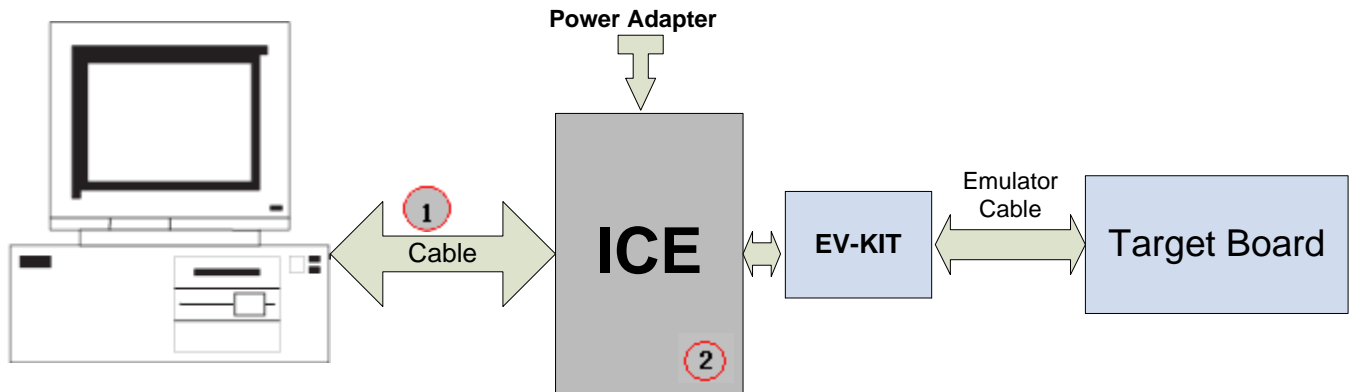

Figure 1-1 Emulation Connection Diagram
The descriptions of ① and ② in Figure 1-1 are as follows:
1. Cable of ① can be Printer Cable or USB Cable;